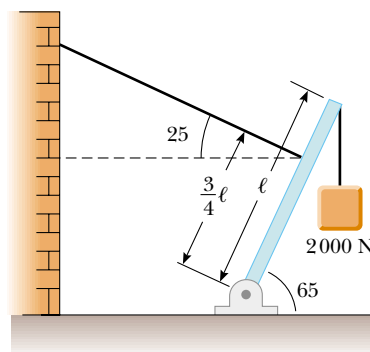

Figure P12.46
46. A 1 200-N uniform boom is supported by a cable as in Figure P12.46. The boom is pivoted at the bottom, and a 2 000-N object hangs from its top. Find the tension in the cable and the components of the reaction force exerted by the floor on the boom.